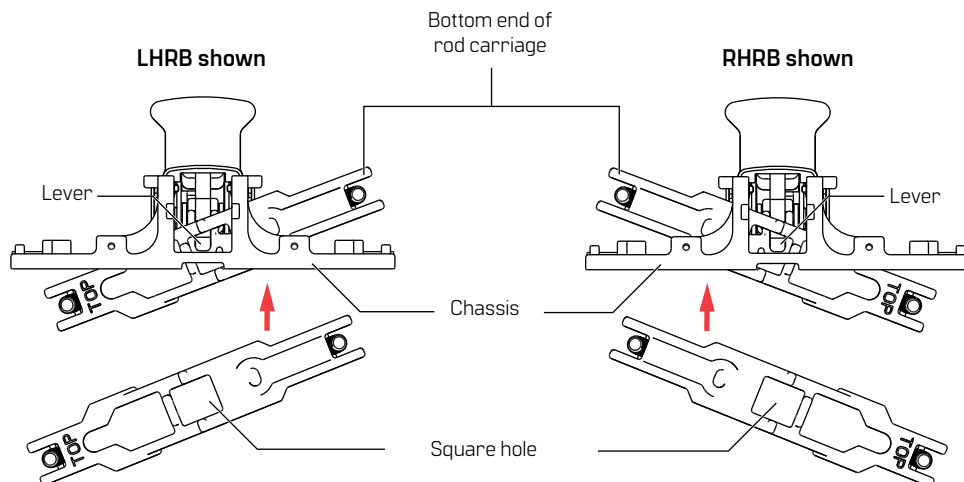

Figure 5 Lift lever
- 3.1.6 Insert bottom end of rod carriage into opposite side of chassis, as shown in Fig. 5.